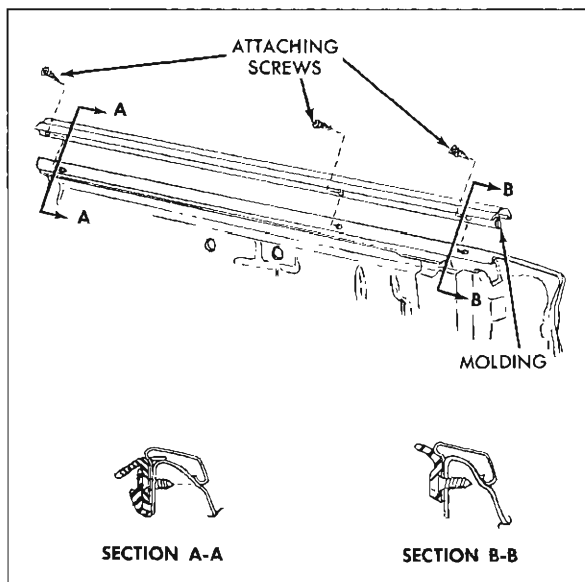
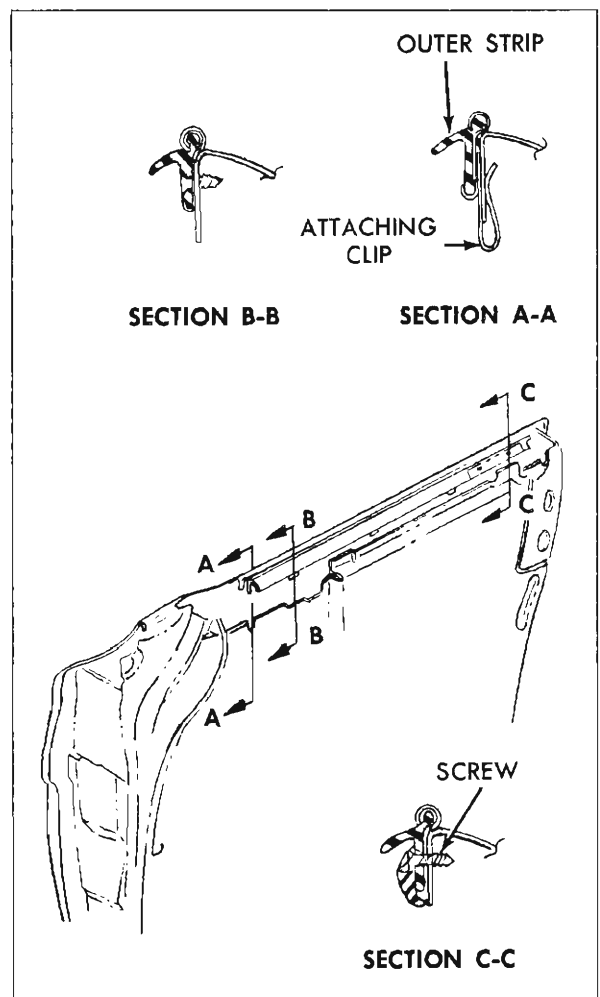

Fig. 3-8 Channel Outer Strip Assy.
Fig. 3-9 Channel Outer Strip Assy.
4. Remove all outer strip assembly attaching screws (three screws on styles equipped with a belt reveal molding and two screws on all other styles). See Figure 3-8 for styles with a belt reveal molding and Figure 3-9 for all other styles.